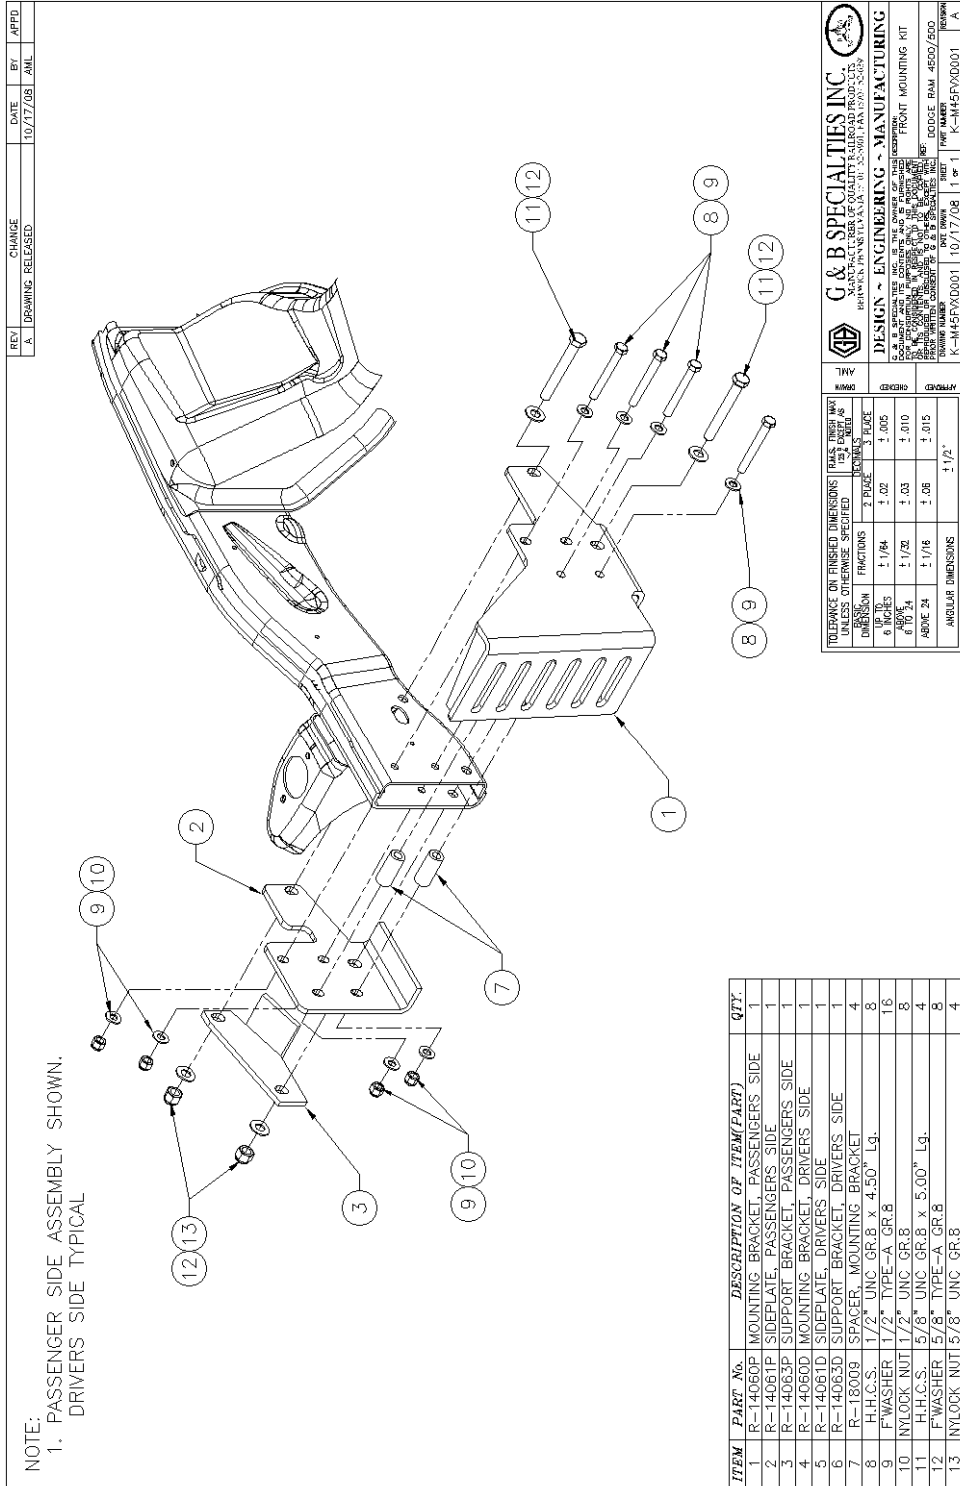

Figure 4
7. Place each spacer on the front two bolts of each mounting bracket. (Figure 4)
8. Place the drivers side sideplate against the bottom of the mounting bracket and outside of the frame as shown. (Figure 4)
9. Place the drivers side support bracket against the bottom of the frame and sideplate and fasten together using the supplied hardware.(Figure 4)